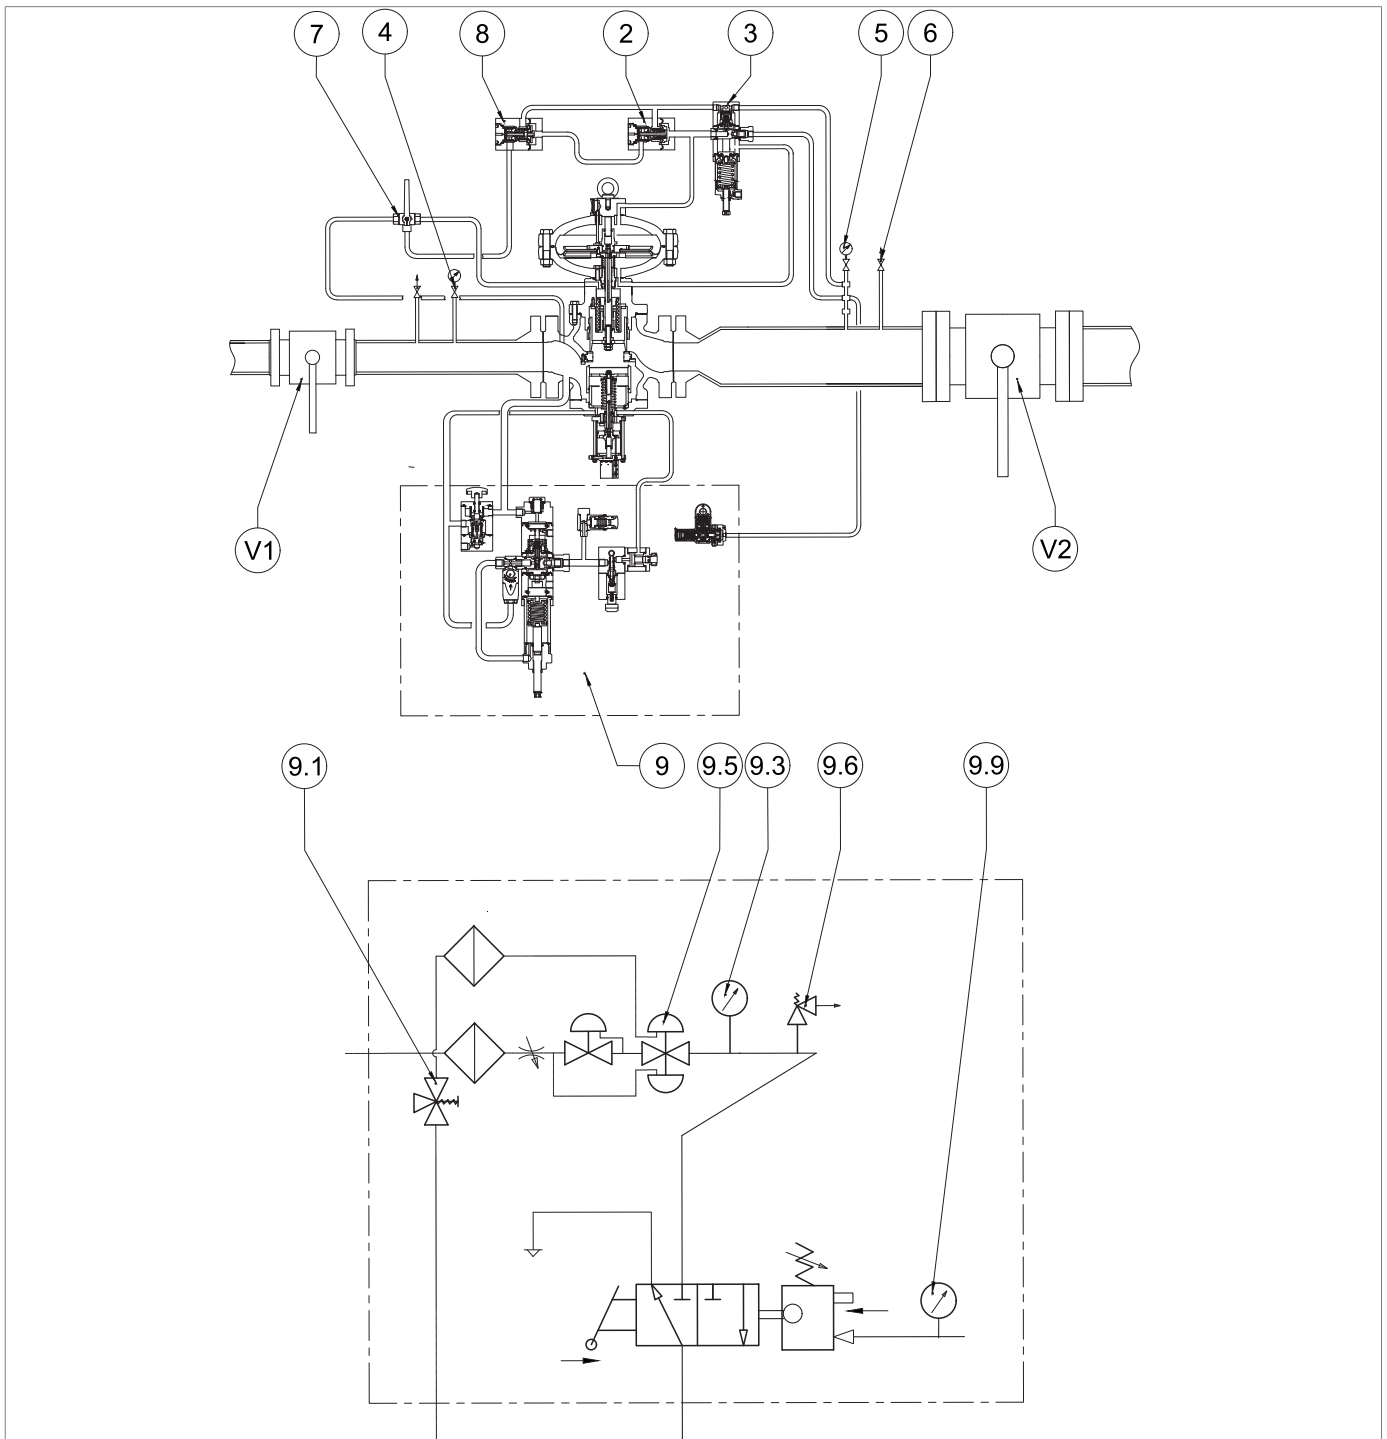

Fig. 8.36. LINE OFF 2.0 commissioning and calibration for the HB/97 built-in slam-shut valve
- Next, check that the pressure indicated by the pressure gauge installed on the LINE OFF 2.0 device (Pos. 9.3 - Figure 8.36.) is 0 bar, ensuring complete depressurisation of the line.